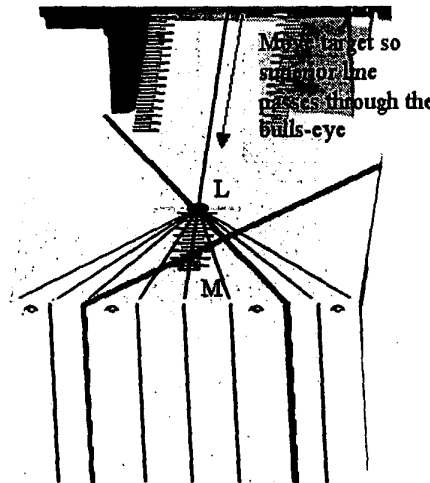

Fig. 13
- Move the Target longitudinally so the "Bulls-eye" is on the centerline of the more superior dot of the two beams. Use the targets built in ruler to count down from the present position. (Fig. 13)